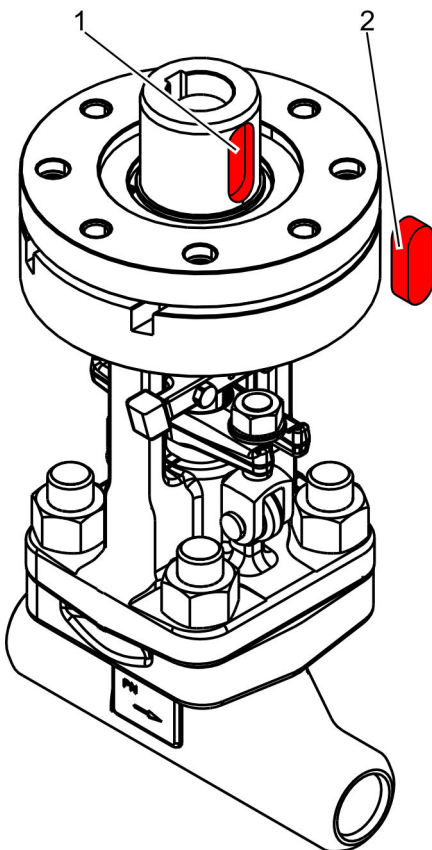

Fig. 37: Removing the feather key
4. ➤ Remove the feather key (Fig. 37/2) from the feather key groove (Fig. 37/1) of the threaded bush.